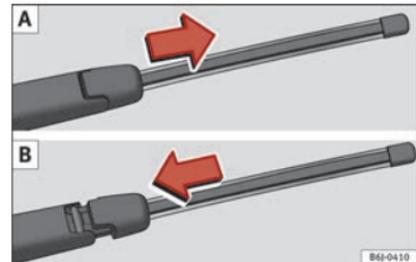

Fig. 73 Removing and fitting the rear window wiper blade.
- Slide the blade adapter in the direction of the arrow and remove the blade » **Fig. 73 A**.
- Place the blade as shown in » **Fig. 73 B** and slide the adapter along until it engages.